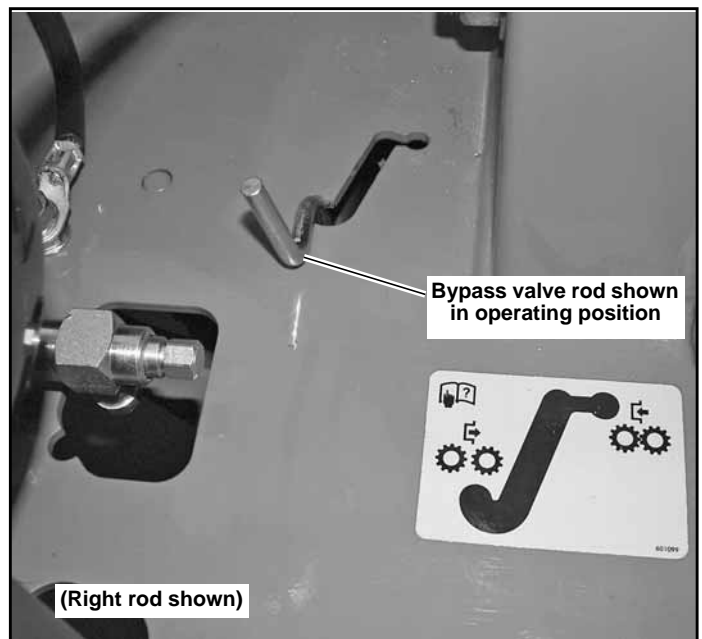

Figure 4-13
3. With the bypass valve open and the engine running, slowly rotate the PowerBar handle in both forward and reverse directions (5 or 6 times). Figure 4-13